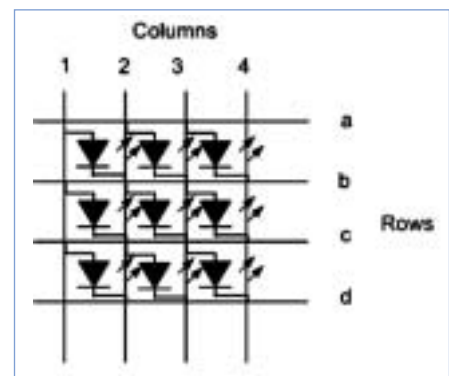

Figure 1. Simplified Passive Matrix OLED configuration.
Currently, the passive matrix (PM) OLED displays, ranging in size from one-to-two inches, dominate the market and are used mainly in mobile phones, with the majority being used for the sub-display of a clamshell phone. These monochrome or two color passive matrix displays are ideal candidates for the still emerging OLED technology. Figure 1 shows a simplified implementation of such a display. The addressing scheme is fairly similar to the PM of a standard LCD, with the main difference being the OLED is a current-programmed device. Therefore the display driver will be different than an LCD driver circuit.